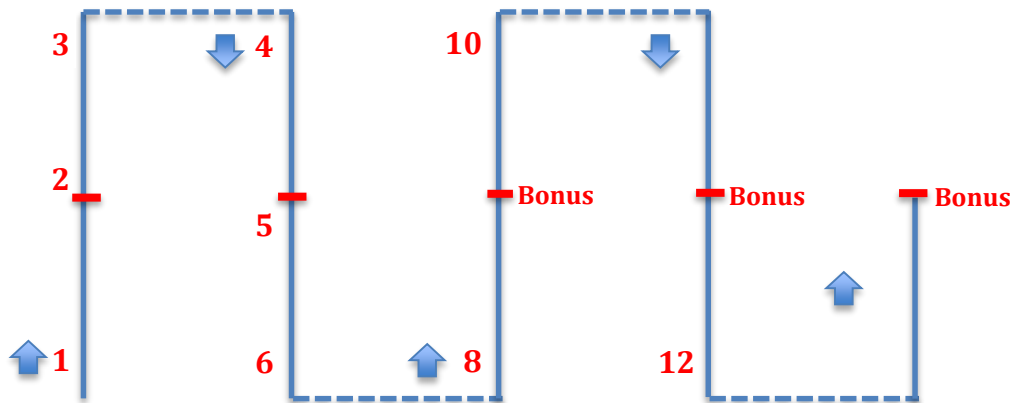

Figure 3: Scoring.
4.2 Points will be awarded for phases that are completed successfully and as shown in Figure 3.
10	4. Scoring was 'Timing' Revised for points scoring, not timing New Figure 3 added for scoring Appendices revised